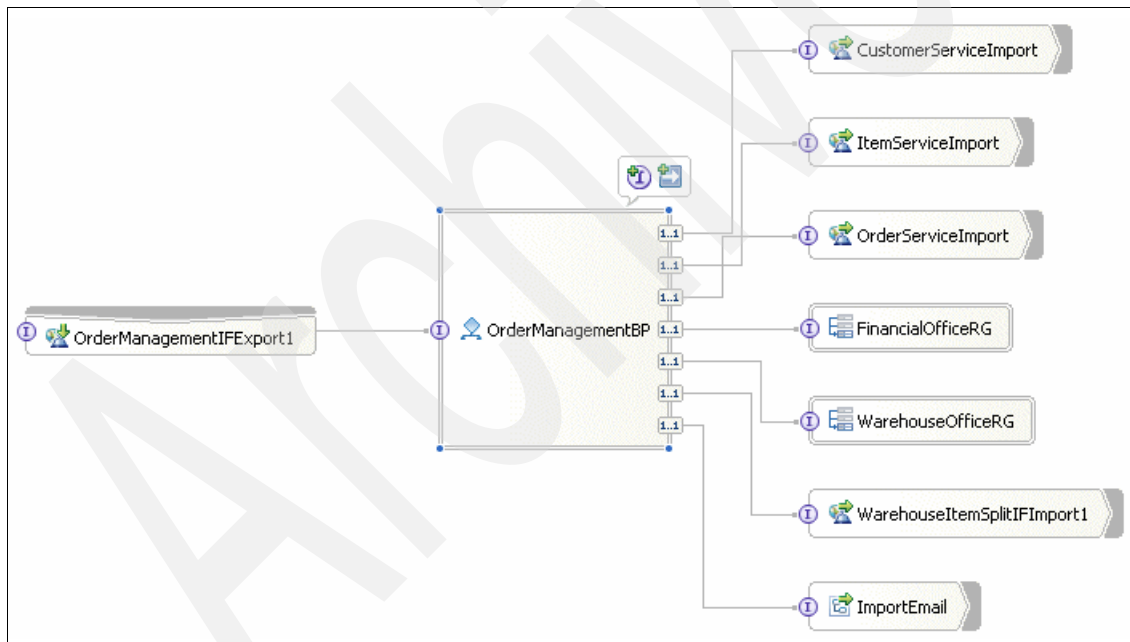

Figure 7-27 OrderManagementBP with all import and export components
4. Verify the final OrderManagement assembly diagram looks as shown in Figure 7-27.